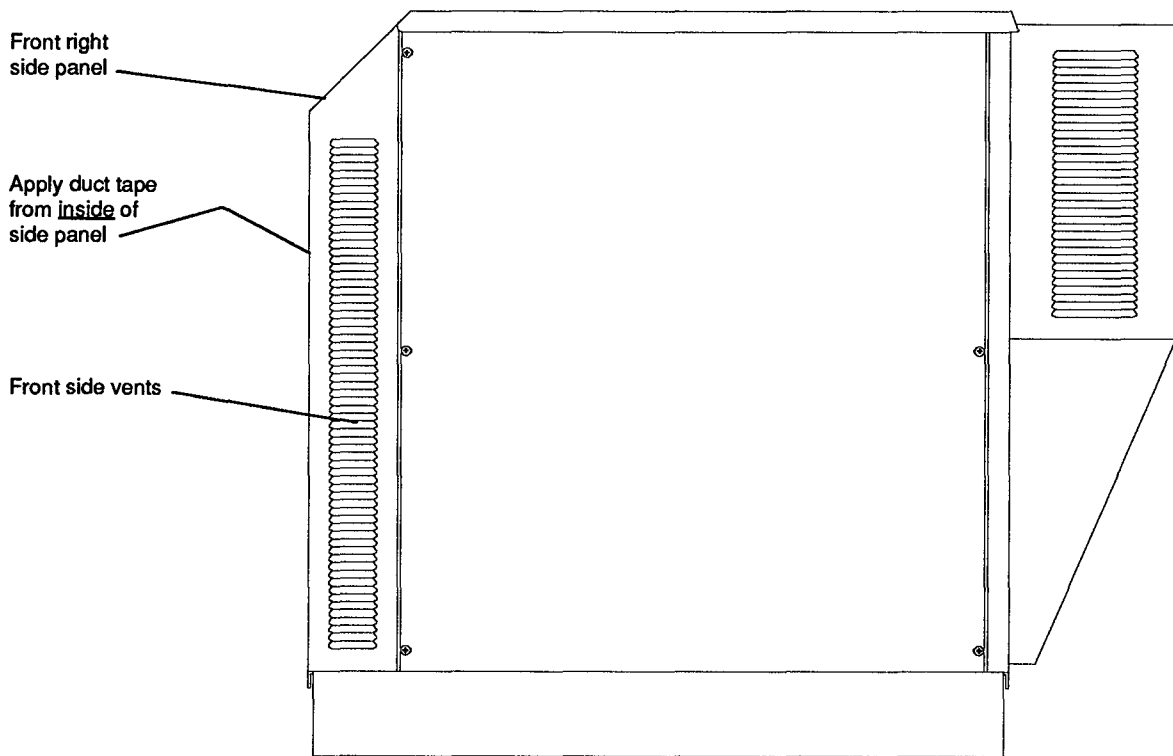

Figure 3 Blocking the Front Side Vents of Power Supply
2. Repeat for front left side (not shown in Fig. 3).